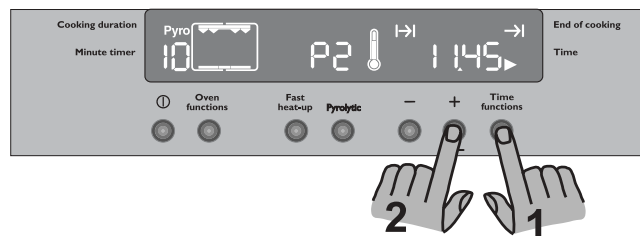

Fig. 24
- Once you have chosen the desired pyrolytic function, the “Pyro” writing will flash in the display waiting for confirmation to start the pyrolytic cleaning function. At this time, push the Time functions button until the “End of Cooking” symbol $\rightarrow|$ and the arrow symbol \blacktriangleright will flash (Fig. 24). The control panel will display the end of the cleaning cycle (that is, the actual time + cooking duration time). Push “-” or “+” buttons to select the required end of cycle time (Fig. 24). After a few seconds, the “Pyro” writing and the symbol $|---|$ will stop flashing, the acoustic signal will stop while the Cooking Duration symbol $\rightarrow|$ will flash until the pyrolytic cleaning cycle starts at the programmed time.